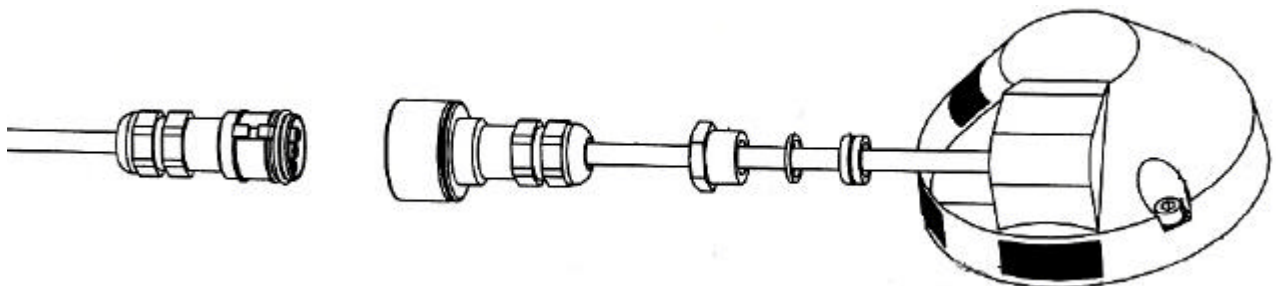

Fig. 1B. Aquasafe Plug and socket. Used on ZA292, 240/120 volt version only.
- **Disconnect the Aquasafe plug before undertaking any work on a 240/120 volt fitting. See Fig. 1B.**